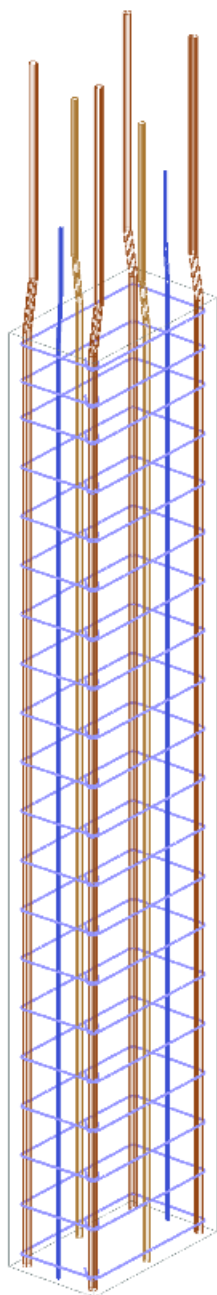

Figure 27.37. Column reinforcement in colour according to diameter
- ⇒ To visualize reinforcement in colour according to diameter (see Fig. 27.37), on the **Reinforcement** ribbon tab, on the **Settings** panel, click the **Colour by Ø** button .